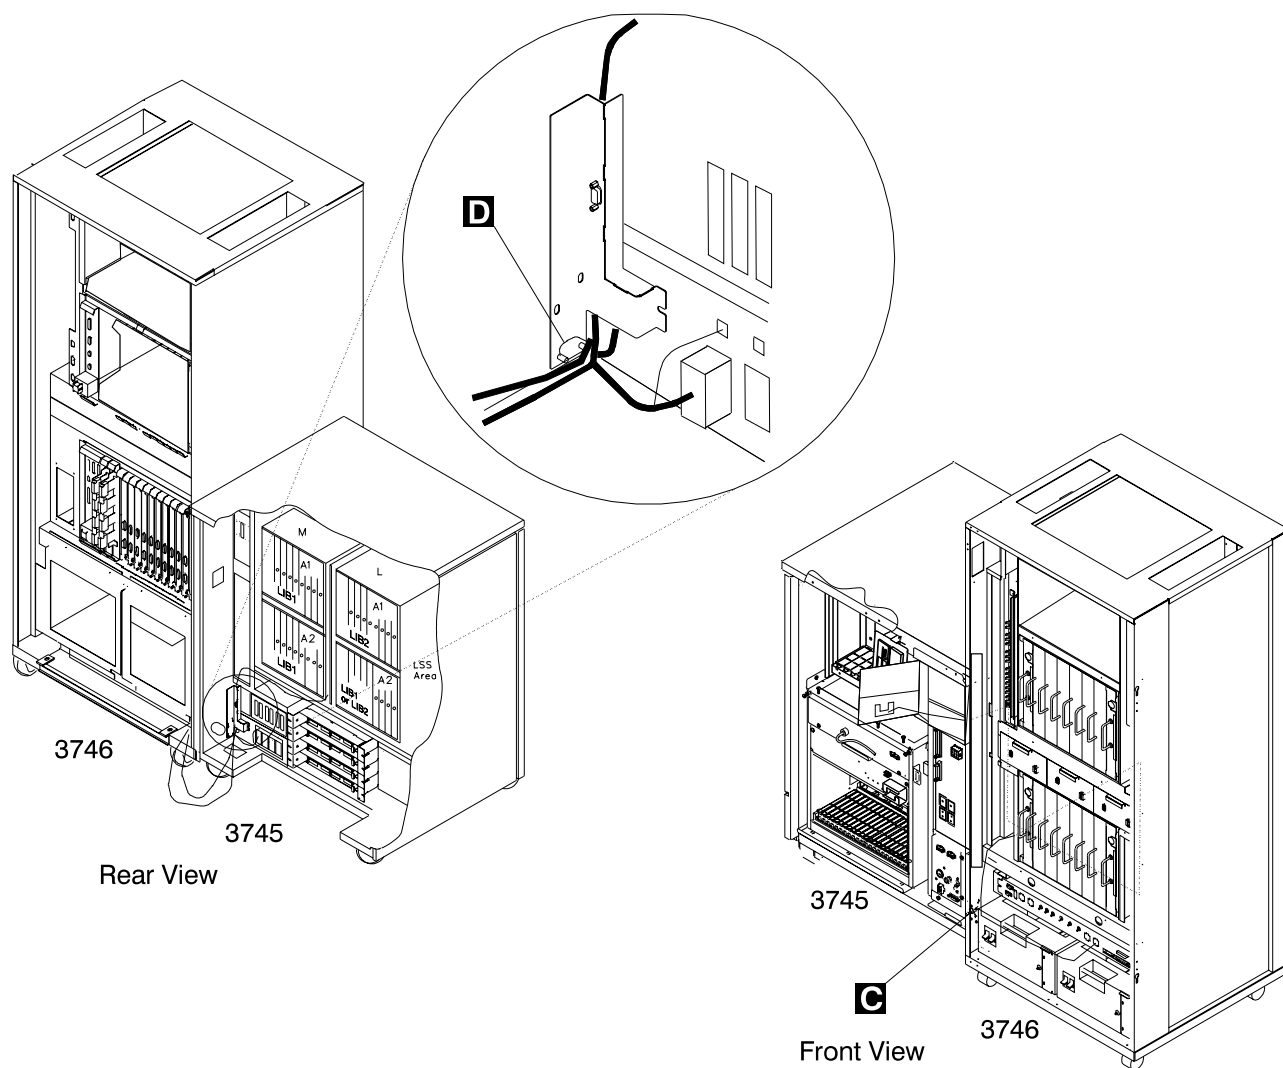

Figure 0-1. 3745 Model 17A/3746-900 Power Control Cable Routing
- To the 3745 Model 17A via the power control cable (see Figure 0-1 on page xxiii).